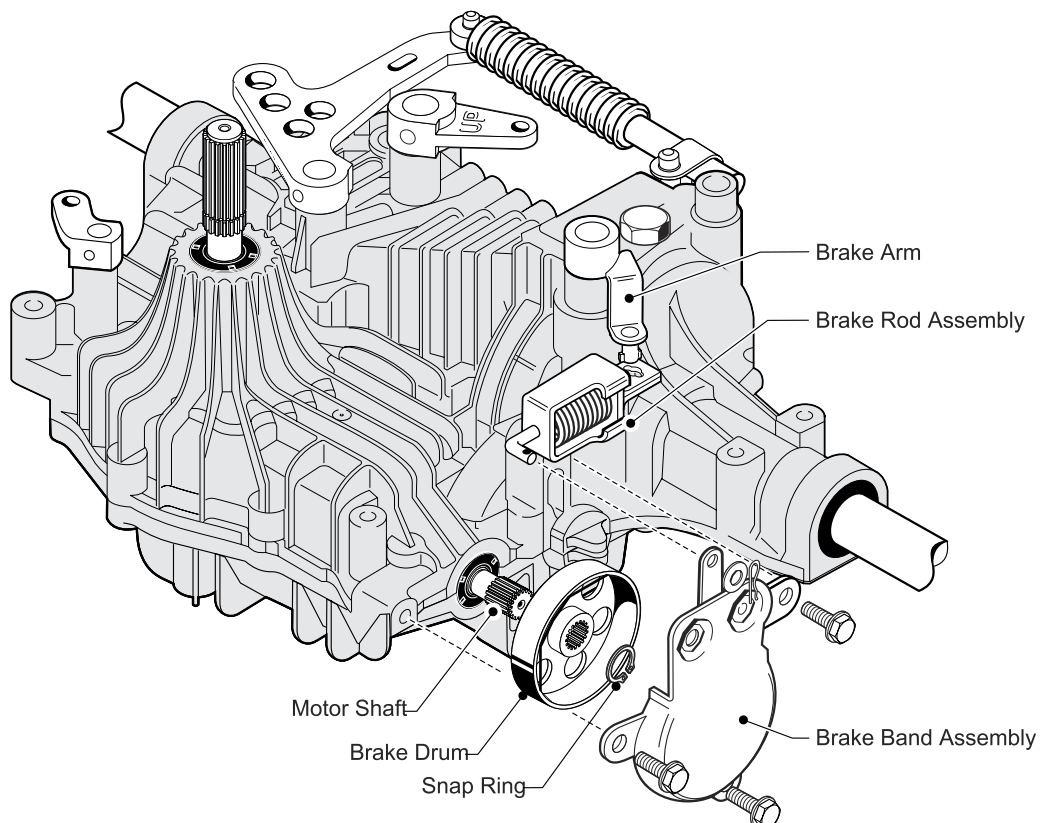

Fig. 49, Brake Band Installation
1. Install the Brake Drum and Snap Ring onto Motor Shaft. (Fig. 49)
8. **(If Applicable)** Connect one end of the Shock Absorber to the Control Arm and the opposite end to the stud on Upper Case, using the appropriate hardware, i.e., Spring Clips or Cotter Pin. (Fig. 49)